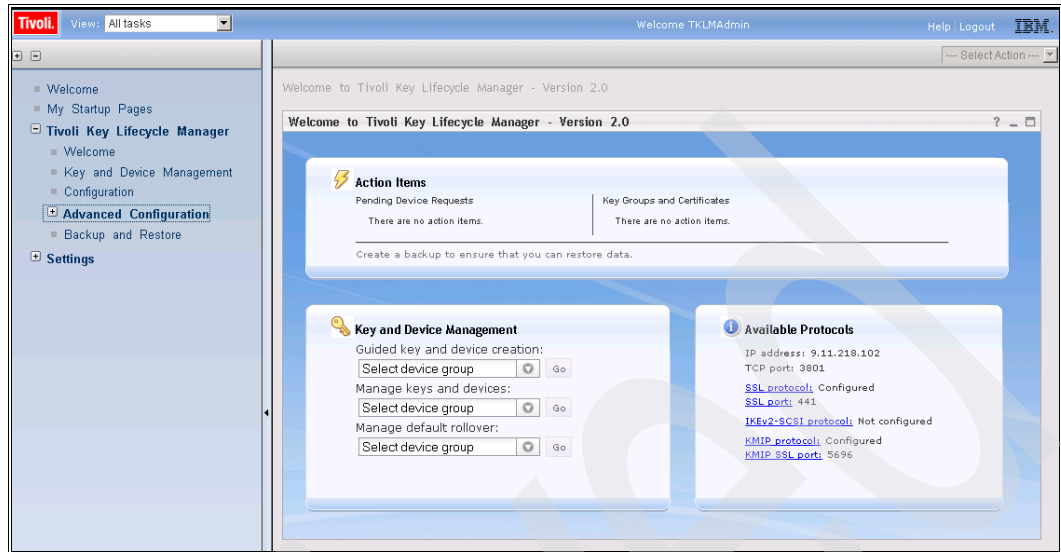

Figure 9-13 Welcome with Tivoli Key Lifecycle Manager branch expanded
- Expand **Tivoli Key Lifecycle Manager** → **Advanced Configuration** in the navigation pane (Figure 9-13).